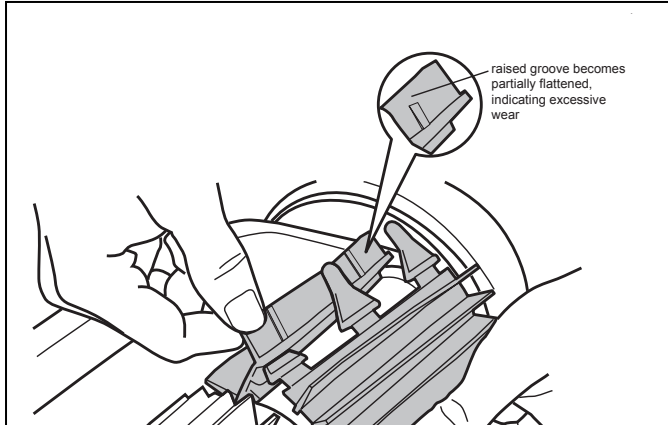

**Figure 26. Lay Cable in the Sun**
4. Remove the cleaner from the pool and untangle all kinks and coils in the floating cable (Figure 26). Start at the cleaner head. Lay the cable in the sun to loosen any tangling memory.